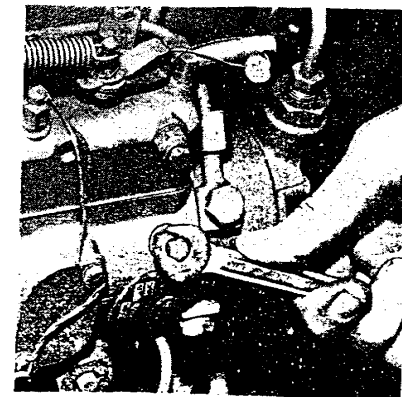

Fig. 5.
2. Slacken vent valve fitted on one of the two hydraulic head locking screws ( see fig. 5).